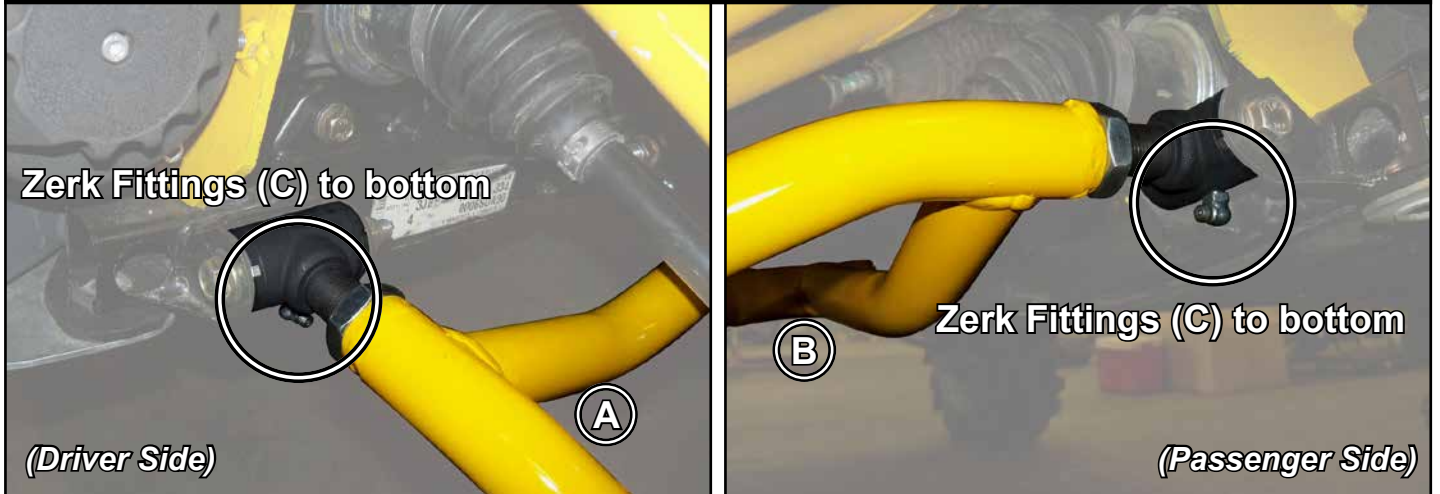

Fig. 2 - Install to Frame with stock hardware
2. Install Lower A-Arms (A)(B) to Frame with stock hardware. See Fig. 2.